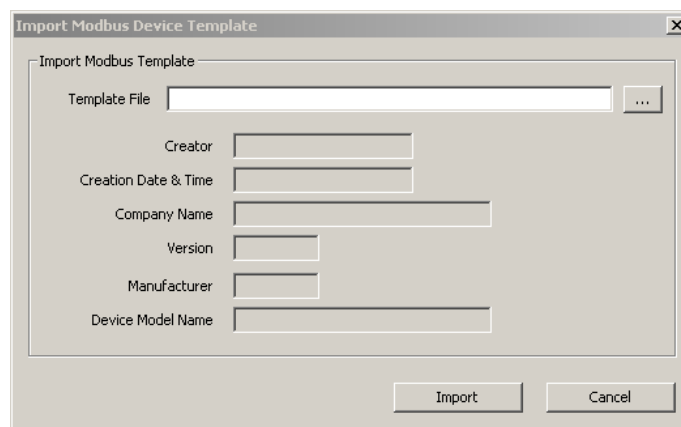

Figure 191 Import Modbus Device Template dialog.
3. Click on the **Create From Template** button. This opens the **Import Modbus Device Template** dialog shown in Figure 191.
3. Click on the **Create with DP** button. This opens the **Import Modbus Device Template** dialog shown in Figure 191.